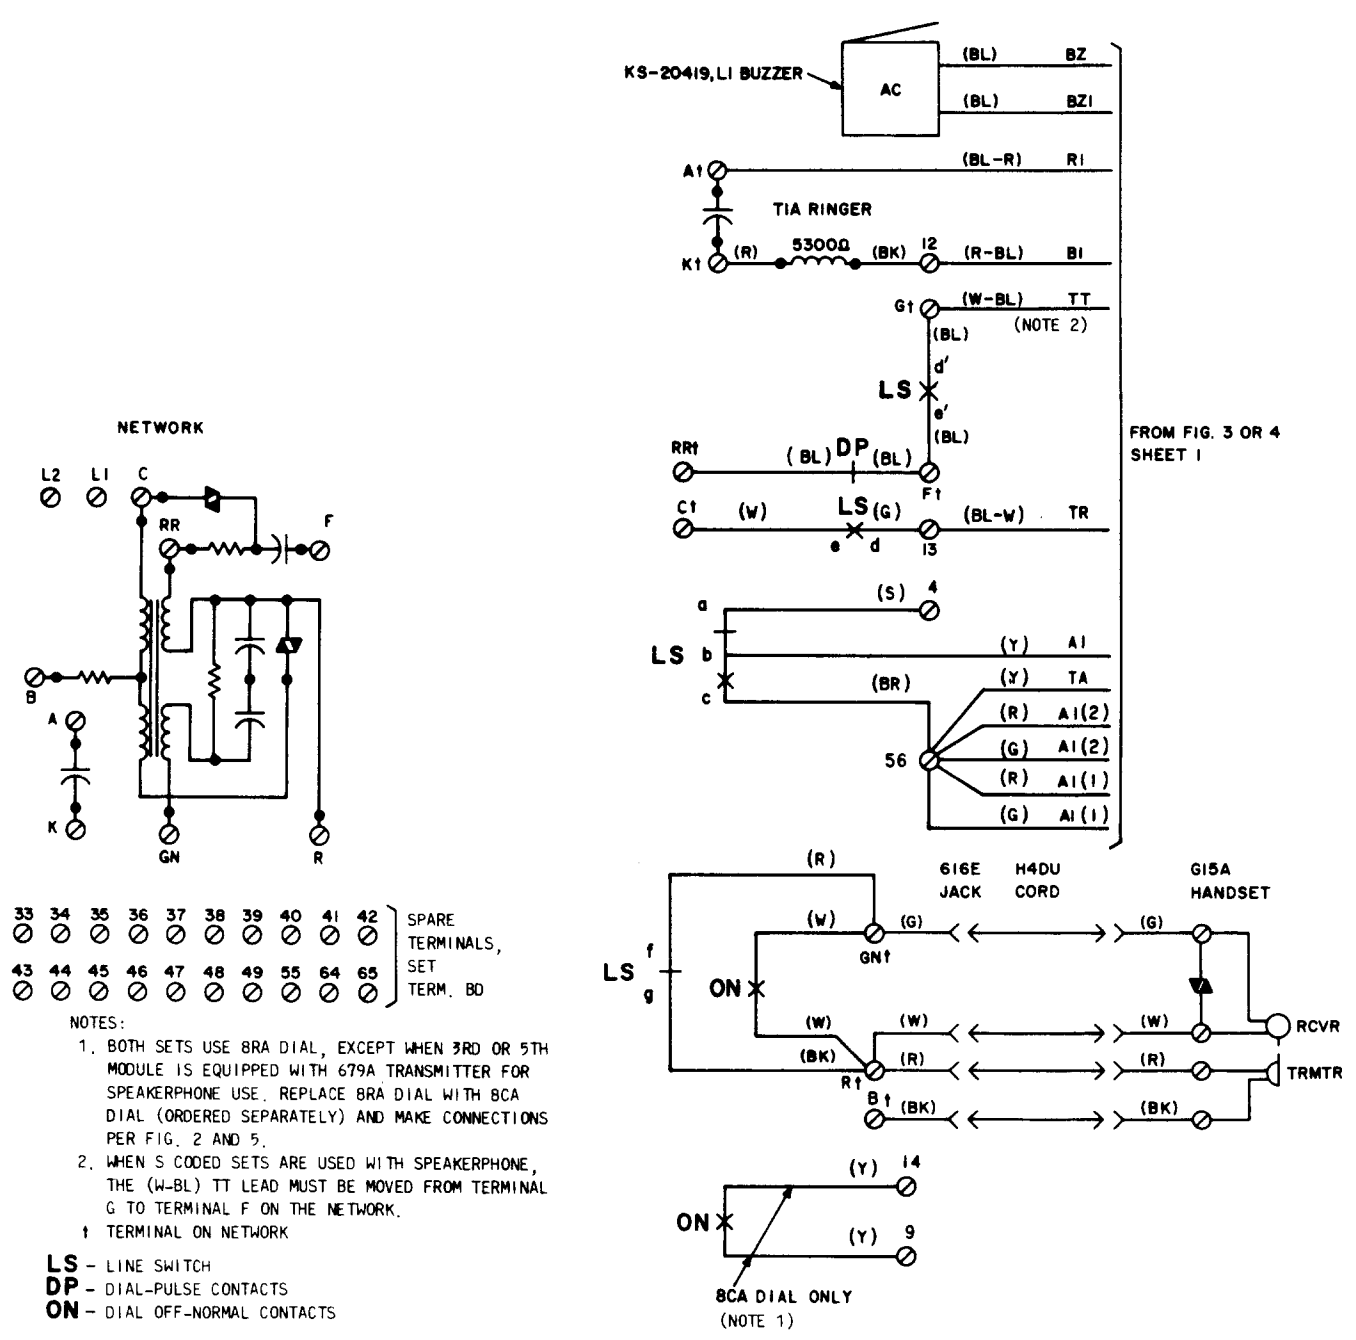

Fig. 2—634DAMS and 635DAMS Telephone Set, Connections
1.04 The 634DAMS1 and 635DAMS1 sets (Fig. 2) are furnished equipped with a new line switch which breaks both the tip and ring side of the line instead of the ring side only.♦